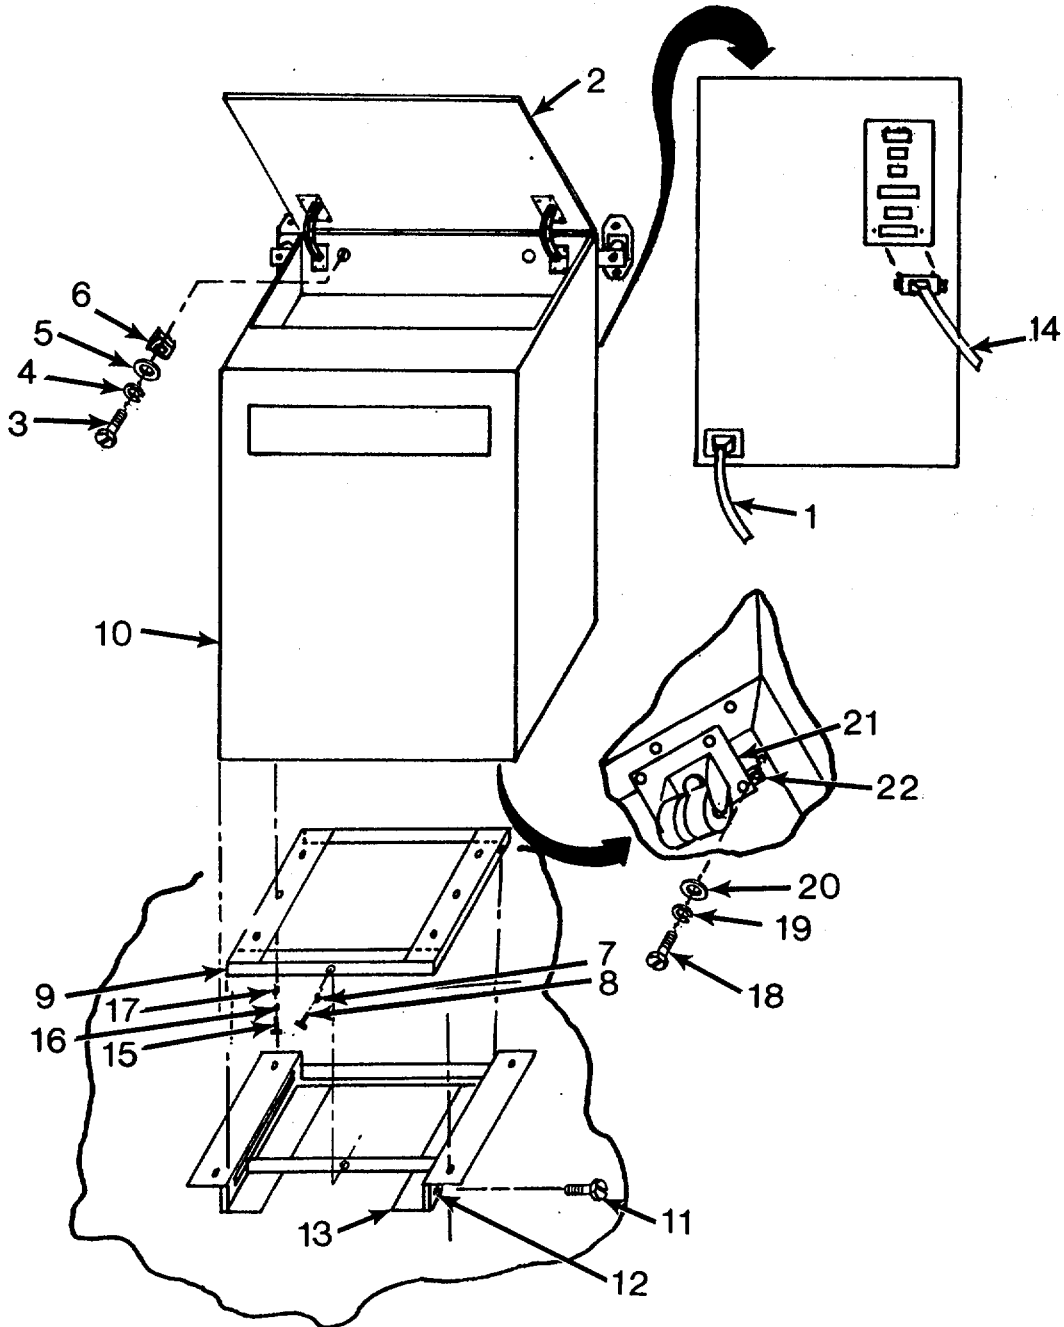

Figure 4-32. Digital Slave Typesetter Mounting
## b. Replace Digital Slave Typesetter. (See Figure 4-32.)
b. Replace Digital Slave Typesetter. - Continued (See Figure 4-32.)
(9) Lay replacement digital slave typesetter(10) on side and install spacers (22), casters (21), flat washers (20), lockwashers (19), and bolts (18).
(10) Install upper support bracket assembly (9), flat washers (17), lockwashers (16), and screws (15).
(11) Install communications cable (14) and raise digital slave typesetter to standing position.
(12) Align holes in upper support bracket (9) with holes (12) in bottom bracket (13) and install screws (11).
(13) Slide digital slave typesetter (10) into position and install flat washer (7) and thumbscrew (8).
(14) Raise top (2) and install backing plate (6), flat washers (5), lockwashers (4), and bolts (3).
(15) Connect power cord (1).
f. Repair. (See Figures 4-32, 4-33, 4-34, and 4-35. ) Repair of the phototypesetter assembly consists of replacing components of the mounting assemblies. For operation and repair of the phototypesetter assembly, refer to TM 5-3610-302-12 and 20P.